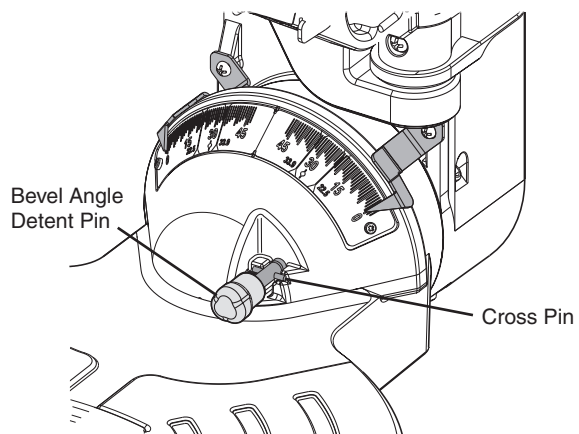

Figure 52. Cross Pin Disengaged for Full Range of Bevel Cuts
- The saw has a bevel angle detent pin which can only be engaged at 33.9° left or right - this is the bevel angle required when cutting 38° "spring angle" crown molding flat on the table. NOTE: If the bevel detent pin automatically engages at 33.9° and prevents tilting the saw to another angle, simply pull it to the front and rotate its cross pin 1/4 turn so it rests in the disengaged position. If pin is sticking in, tilt and rock saw head side to side as you pull on it (see Figure 52).